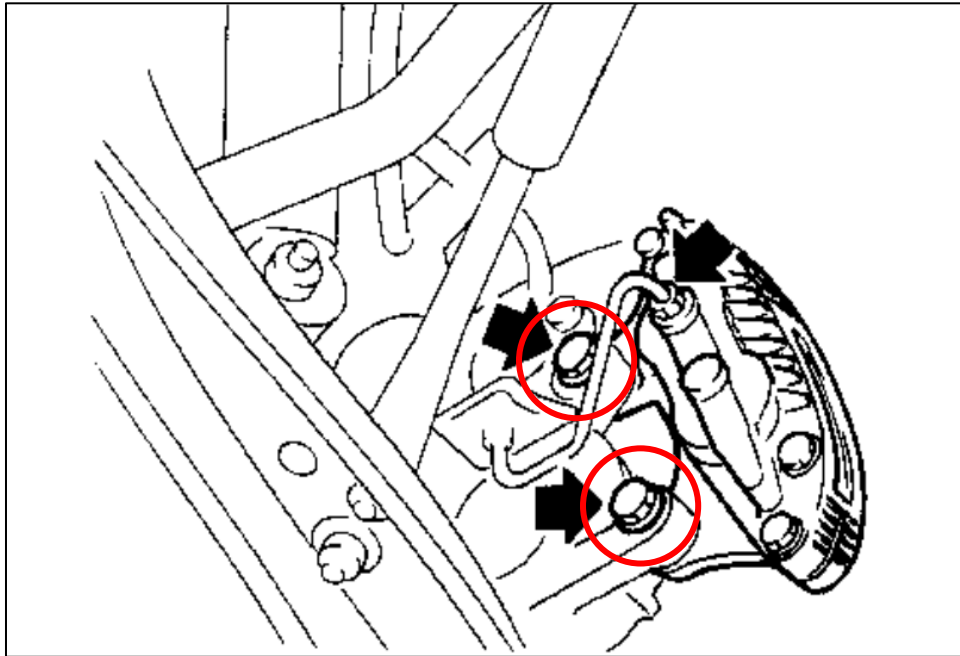

Figure 2
- Remove the (2) two Caliper Mounting Bolts and remove the Caliper from the vehicle. Retain this hardware. *Figure 2.*